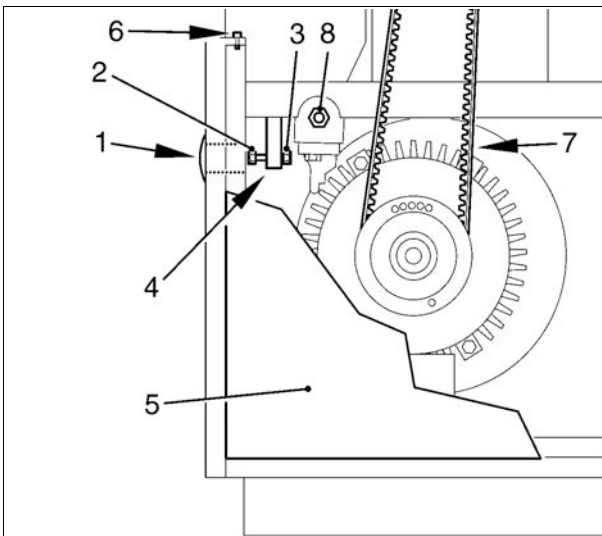

Fig. 23
The V-belt preload needed is specified by the weight of the motor, which is mounted in a rotary fashion (- 8 - Fig. 23).
- Remove the panel (- 5 - Fig. 23) by loosening the capscrews (- 6 - fig. 34)
- Remove the cover cap (- 1 - Fig. 23) from the access panel
- Lift the motor by turning the motion screw (- 2 - Fig. 23) clockwise until the V-belts are released
- Replace the V-belt set (- 7 - Fig. 23)
- Screw the motion screw back in until the lock nut (- 3 - Fig. 23) reaches the holder (- 4 - Fig. 23); securely fasten the motion screw (anti-clockwise)